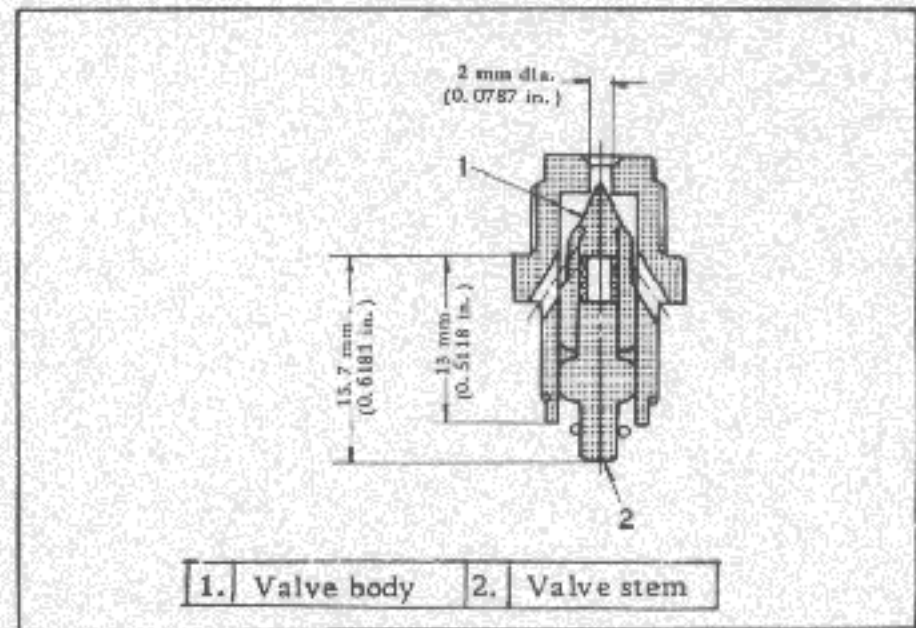

Fig. EF-69 Needle valve
2. Lift up the float lever with the tip of your finger and then slowly lower the float lever. Stop lowering the float lever at the position at which the float lever seat just contacts the valve stem (See Fig. EF-69.)